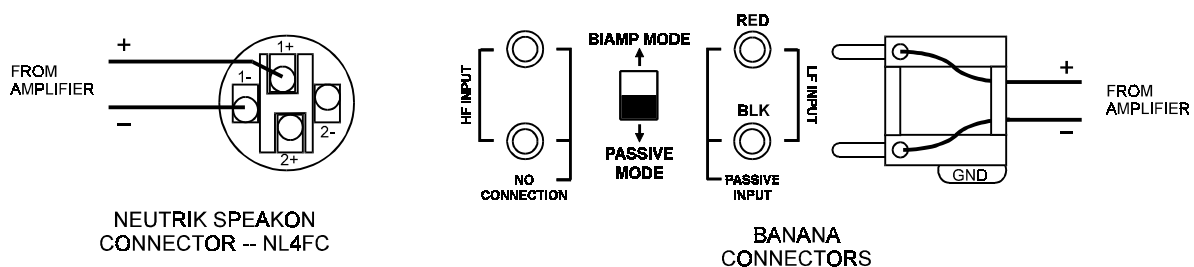

FIGURE 4: Wiring for SLS in PASSIVE Mode
10.5.1 SLS PASSIVE Mode Operation (See FIGURE 4)